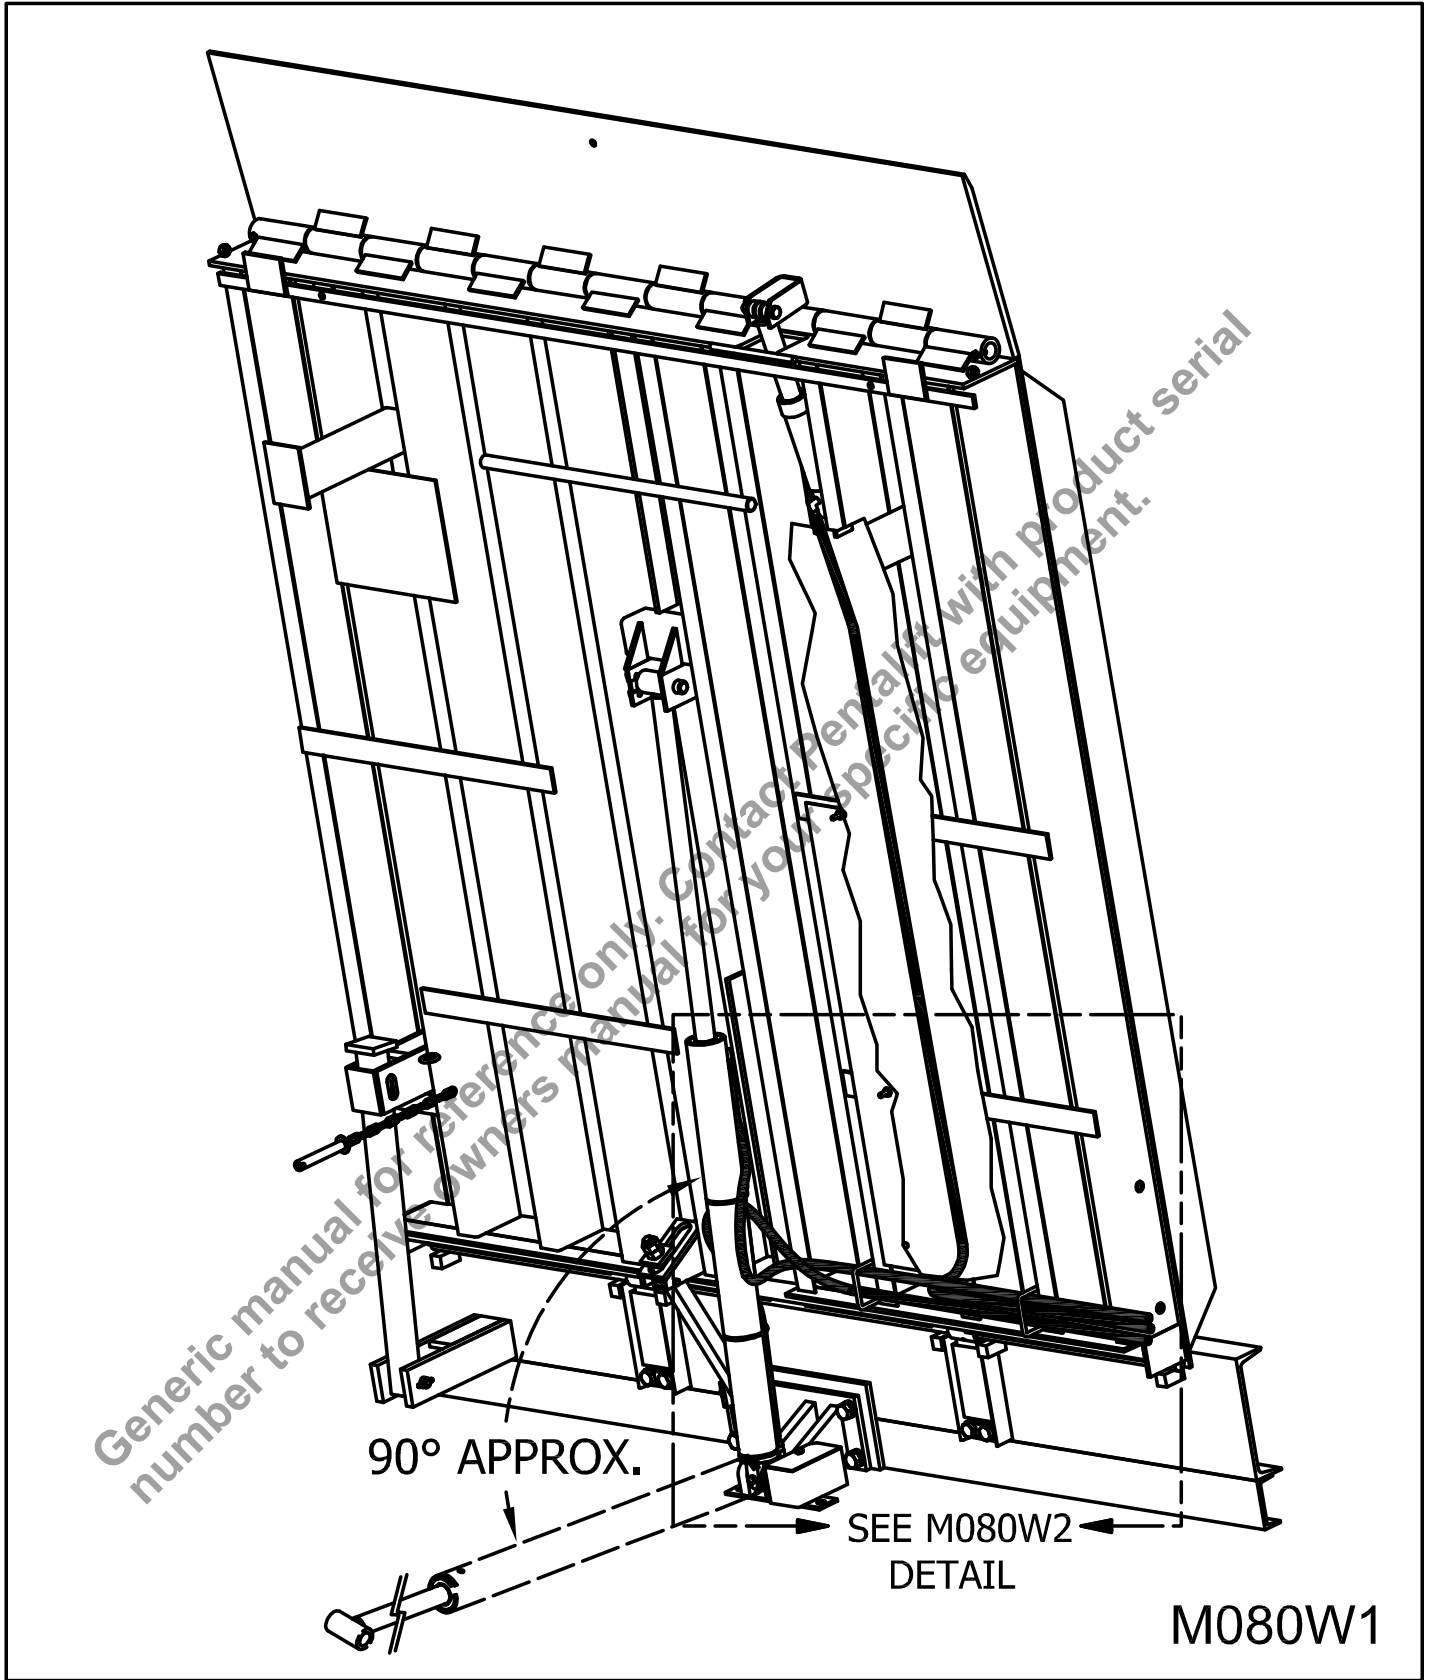
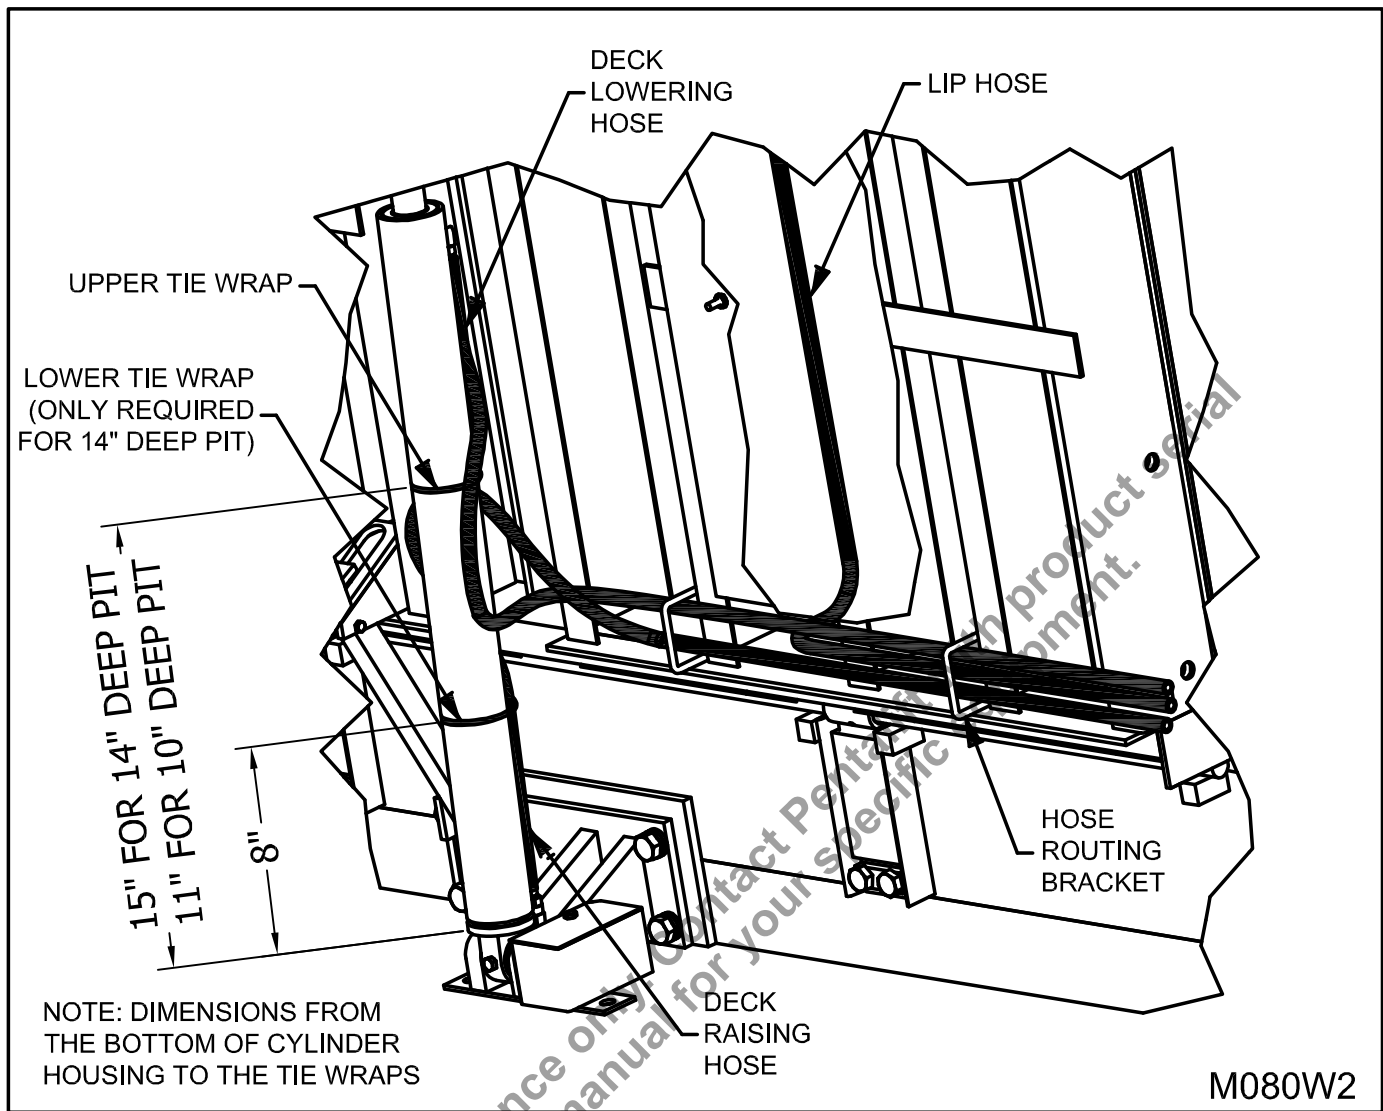

Figure 34: Routing of hydraulic hoses
Figure 35: Routing of hydraulic hoses (DETAIL)
14. ___ Routing of hydraulic hoses (see “Figure 34: Routing of hydraulic hoses” on page 26) and Routing of hydraulic hoses-DETAIL (see “Figure 35: Routing of hydraulic hoses (DETAIL)” on page 27)